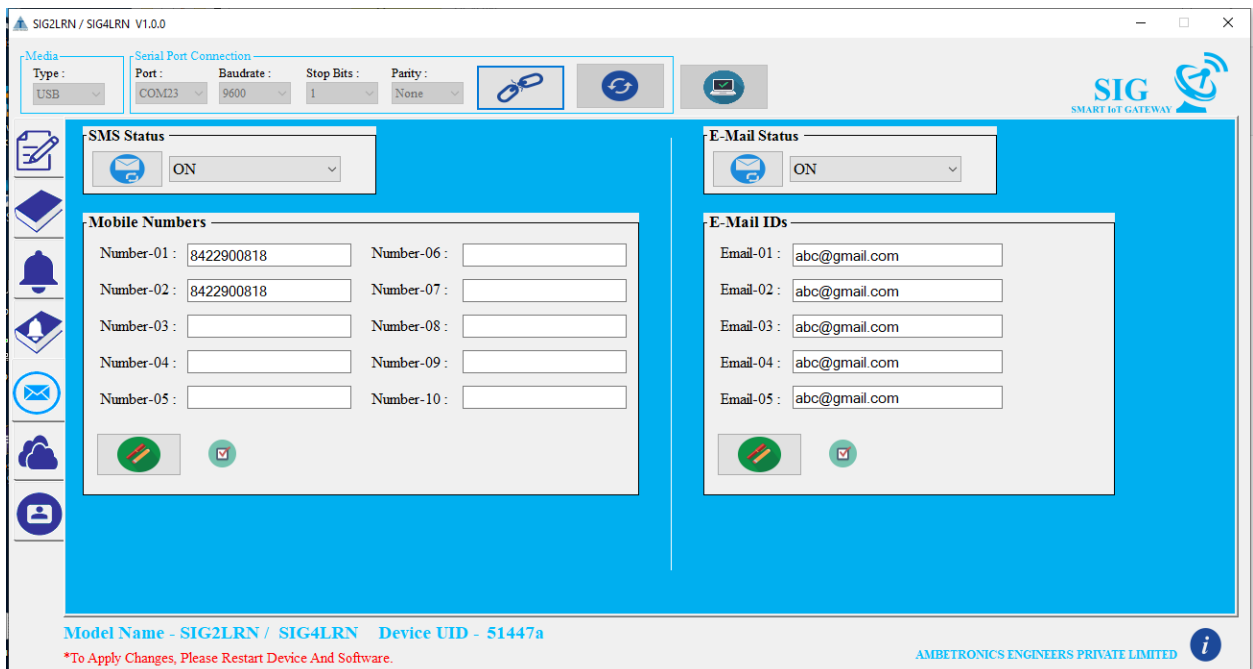

Figure 31
Figure 31 illustrates as follows:
- Now select ON or OFF according to requirements. If user requires SMS or Email Notifications then select ON. After selection enter mobile numbers and email addresses as shown in Figure 31.
- After configuring all Mobile Numbers or Emails Id's click on  button to write all configurations into device. If all configurations are done successfully then right,  check will appear on window or if settings are not done properly, then  wrong check will appear on window. As shown in Figure 31.